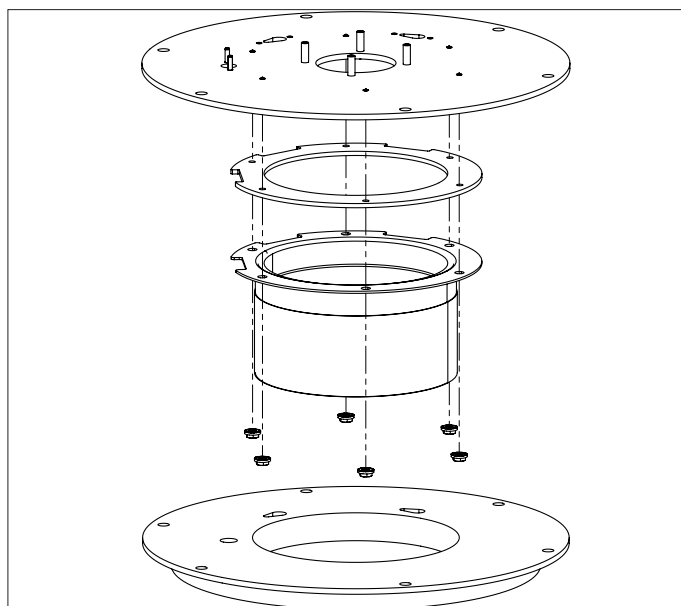

Figure 85 - Disassembled Burner Assembly
- Reassemble the burner assembly. Ensure the components are installed as described in Figure 85.